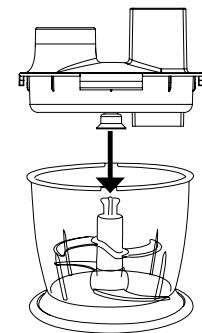
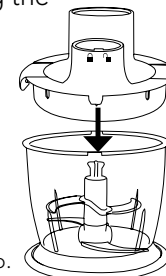
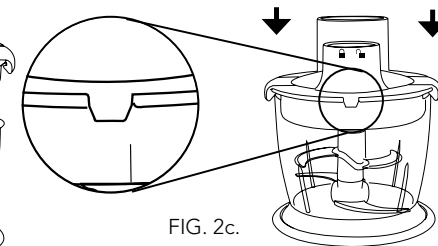

FIG. 2a.
FIG. 2b.
FIG. 2c.
2. Attach the food processor lid onto the bowl, refer to Fig. 2a. Make sure that the two tongs (extensions) on the lid are aligned with the two grooves on the food processor bowl as illustrated in Fig. 2b. Once the two tongs on the lid are slotted in the two grooves, push down the lid until it is securely locked in place as illustrated in Fig. 2c.